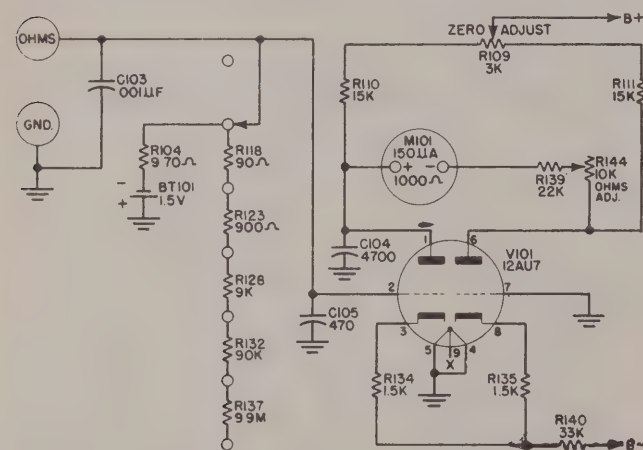

Figure 2-6. Ohmmeter Circuit
d. OHMMETER CIRCUIT. (See Fig. 2-6)